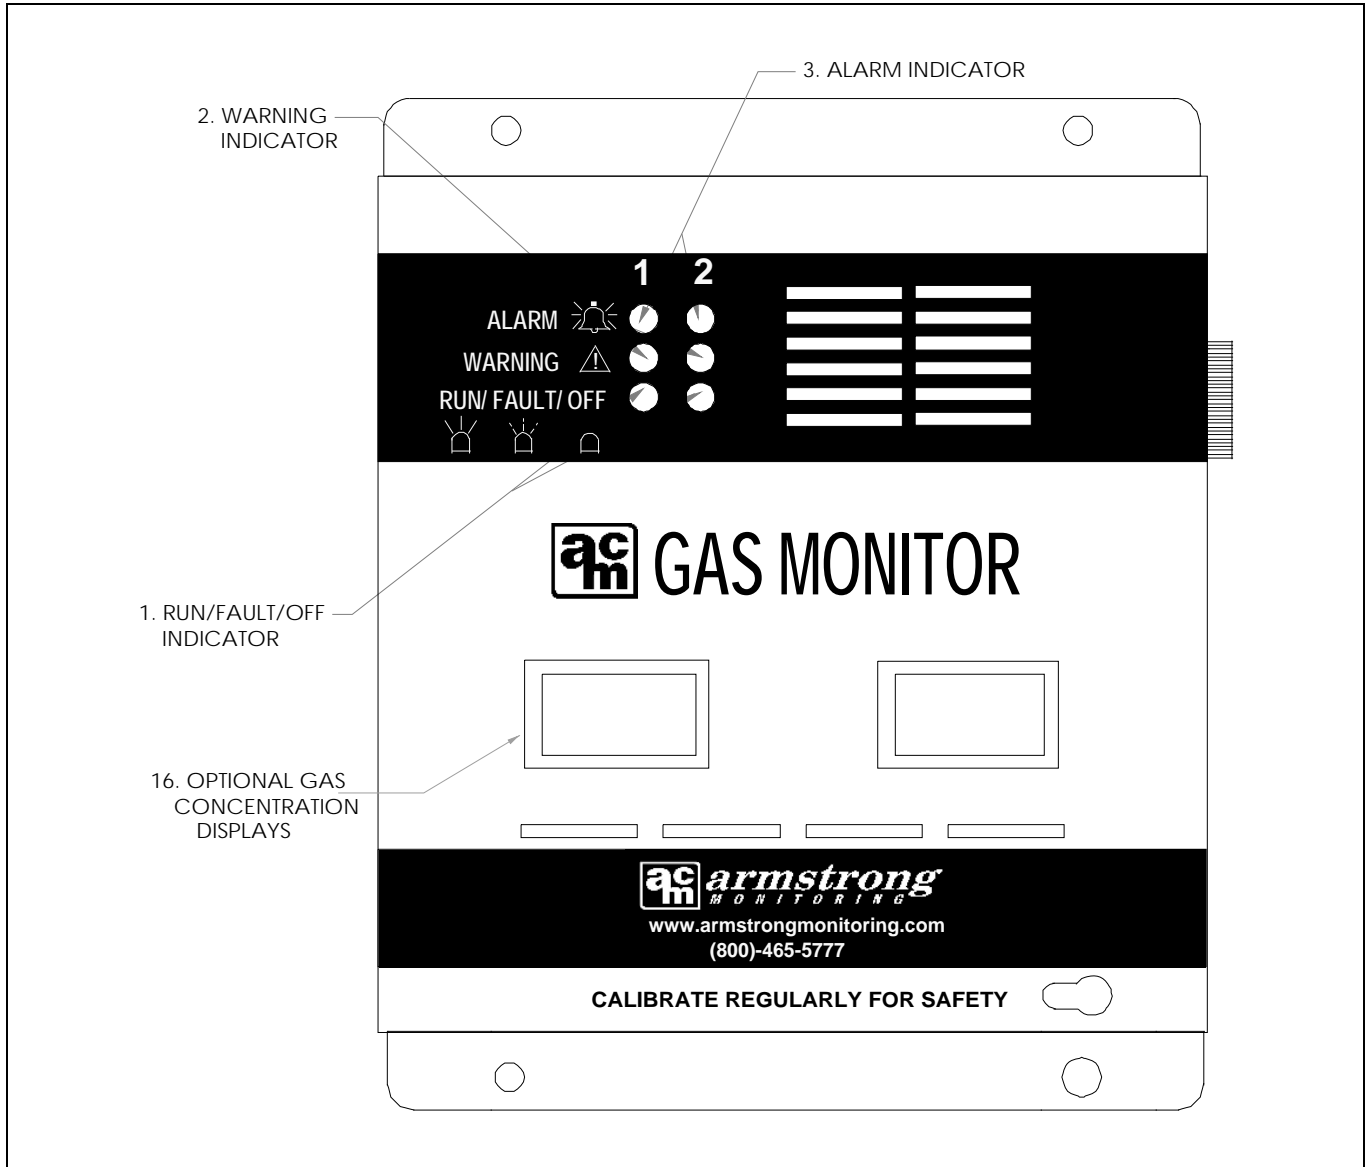
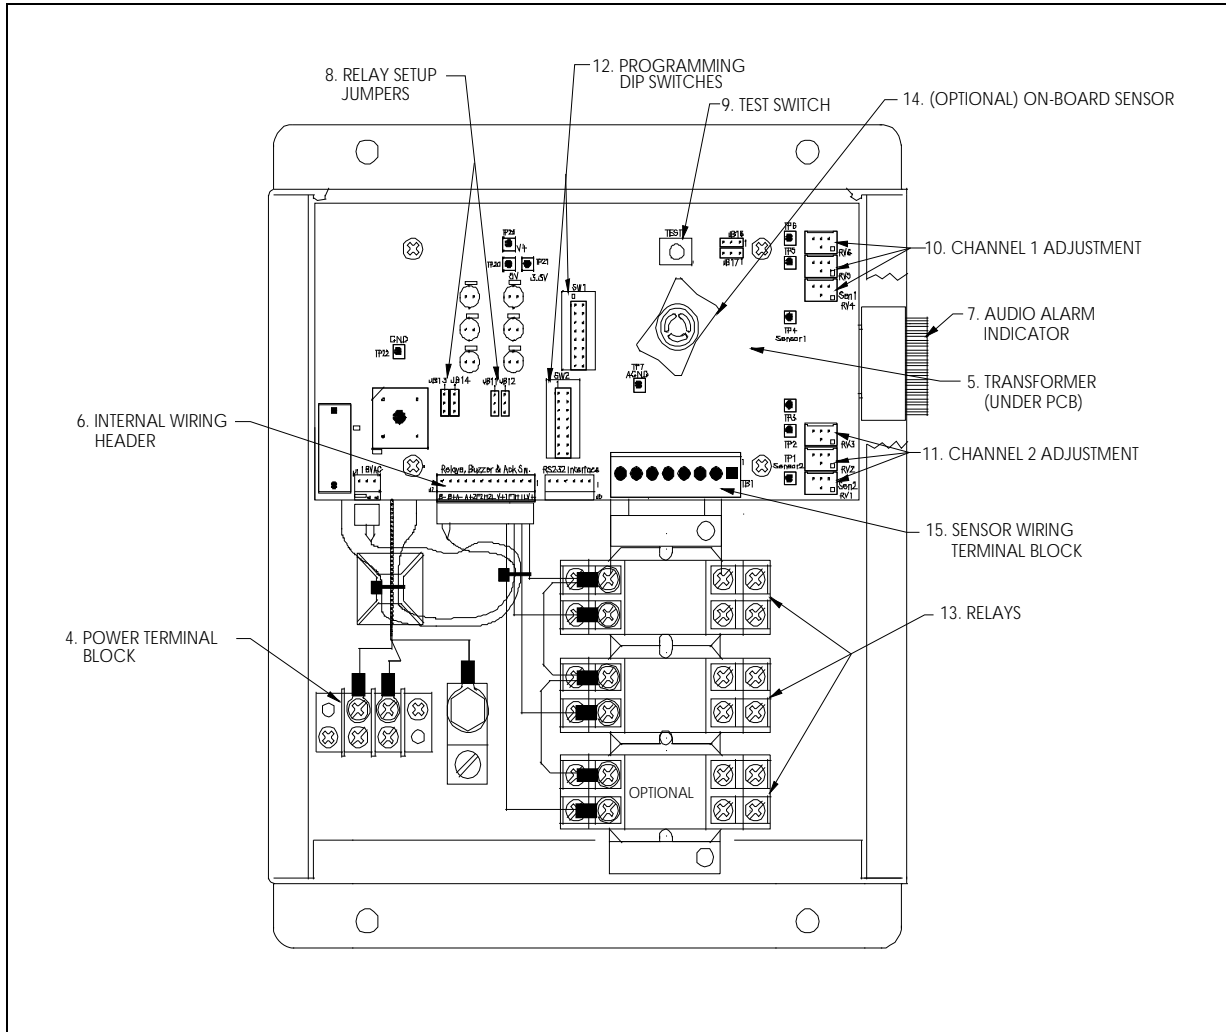
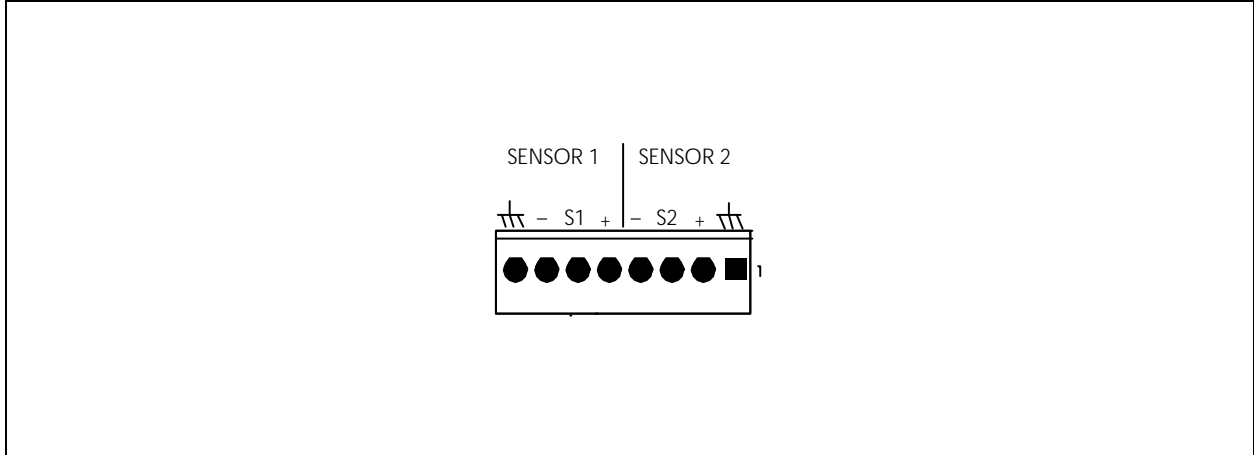

Figure 3-1 Gas Monitor 1A2, Front Cover
Figure 3-2 Internal Features of the Gas Monitor 1A2
Figure 4-9 Signal Input Terminal Block
The 4-20mA transmitters are used to monitor gases in up to two remote locations. Eight sensor modules can be daisy chained per each of the two channel inputs allowing larger areas or zones to be effectively monitored. The monitor comes with the following features, see Figure 3-1 and Figure 3-2.
Each transmitter, sensor module or remote sensor connects to a set of sensor terminals (-, S#, +) on the signal input terminal block located on the circuit board, see Figure 3-2, item 15. The signal input terminal block is located in the bottom right corner of the PCB and is capable of wiring two channels of inputs as shown in Figure 4-9. The following sections detail each of the remote transmitter or sensor wiring.